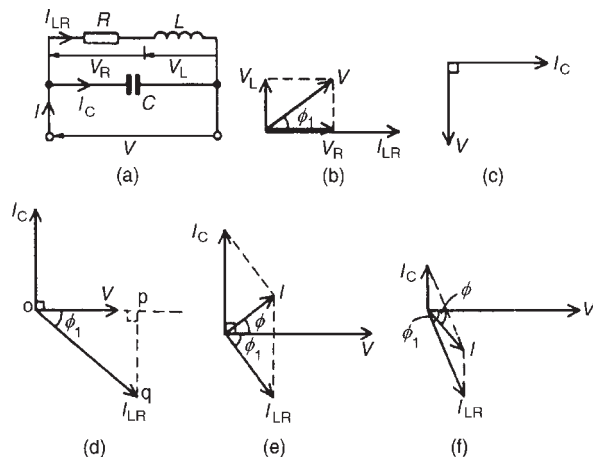

Figure 16.5
In the two branch circuit containing capacitance C in parallel with inductance L and resistance R in series (such as a coil) shown in Fig. 16.5(a), the phasor diagram for the LR branch alone is shown in Fig. 16.5(b) and the phasor diagram for the C branch is shown alone in Fig. 16.5(c). Rotating each and superimposing on one another gives the complete phasor diagram shown in Fig. 16.5(d).
The current I_{LR} of Fig. 16.5(d) may be resolved into horizontal and vertical components. The horizontal component, shown as op is $I_{LR} \cos \phi_1$ and the vertical
- (i) $I_C > I_{LR} \sin \phi_1$ (giving a supply current I leading V by angle ϕ —as shown in Fig. 16.5(e))
- (ii) $I_{LR} \sin \phi > I_C$ (giving I lagging V by angle ϕ —as shown in Fig. 16.5(f))
There are two methods of finding the phasor sum of currents I_{LR} and I_C in Fig. 16.5(e) and (f). These are: (i) by a scaled phasor diagram, or (ii) by resolving each current into their ‘in-phase’ (i.e. horizontal) and ‘quadrature’ (i.e. vertical) components, as demonstrated in problems 6 and 7. With reference to the phasor diagrams of Fig. 16.5: